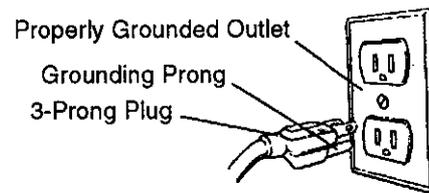

Figure 5 - 3-Prong Receptacle
Refer to Figures 5, 6, and 7, pages 4-5.
- This tool is equipped with an approved 3-conductor cord rated at 240V and a 3-prong grounding type plug rated at 125V (Figure 5) for your protection against shock hazards.
- Grounding plug should be plugged directly into a properly installed and grounded 3-prong grounding-type receptacle, as shown (Figure 5).